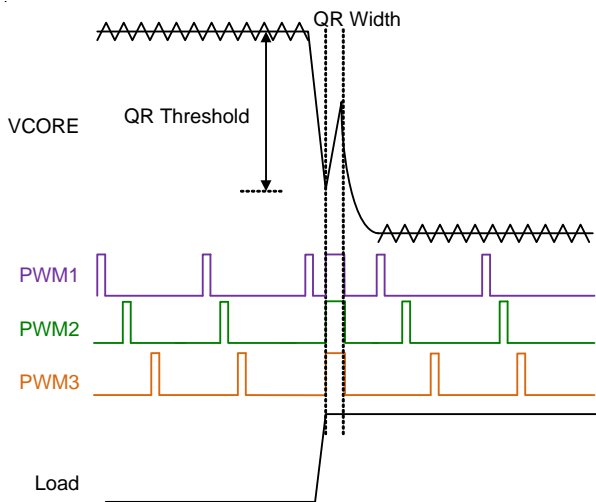

Figure 11. Quick Response Mechanism
**Quick Response (QR) Mechanism**
When the transient load step-up becomes quite large, it is difficult for loop response to meet the energy transfer. Hence, that output voltage generate undershoot to fail specification. The RT8889C has Quick Response (QR) mechanism being able to improve this issue. It adopts a nonlinear control mechanism which can disable interleaving function and simultaneously to turn on one all UGATE pulse at instantaneous step-up transient load to restrain the output voltage drooping, Figure 11 shows the QR behavior.